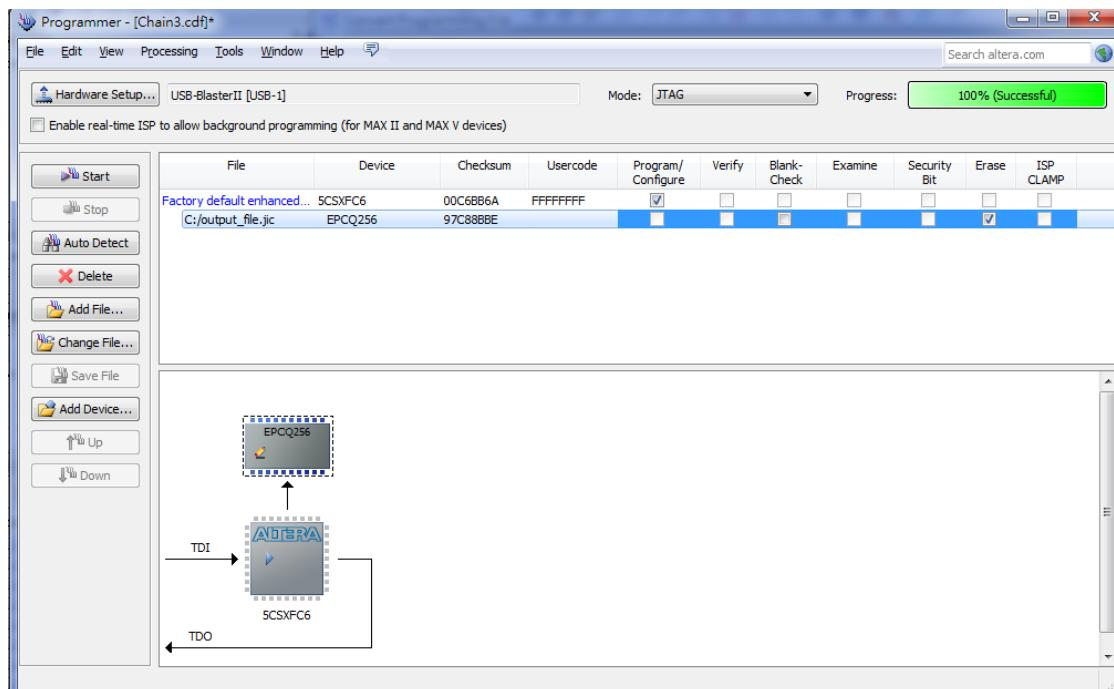

Figure 6-7 Erasing setting in Quartus II programmer window
4. Erase the serial configuration device by checking the corresponding **Erase** box, a Factory default SFL image will be load (See **Figure 6-7**).